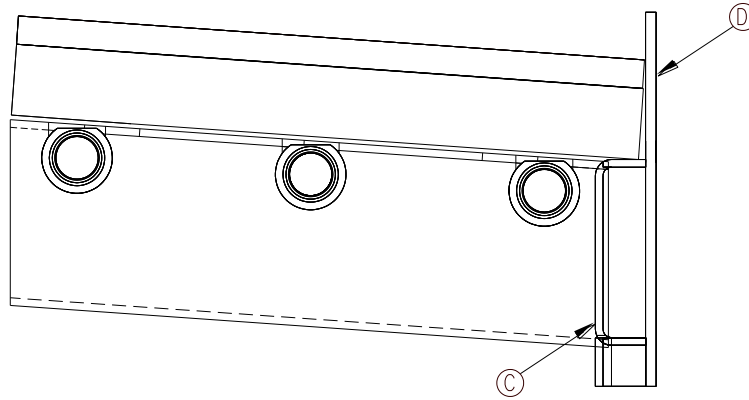

Figure 4.4b
- Put them on the horizontal air duct (C) (see figure 4.4b). Afterwards, push them towards the bottom and sides so that they rest on the back of the firebox (D) and on the side air ducts.